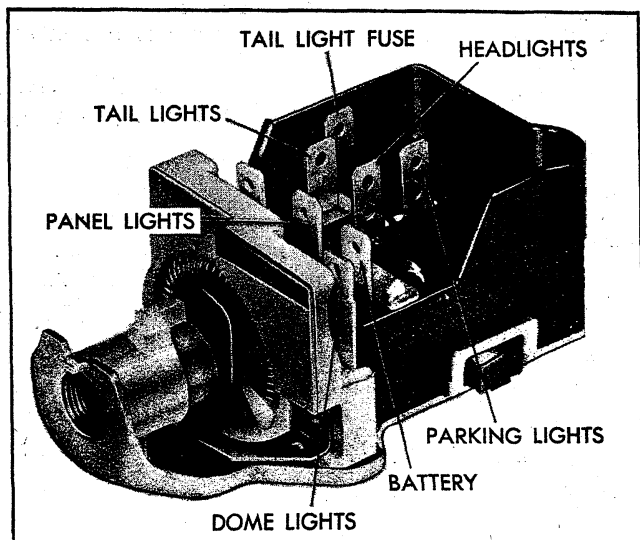

Fig. 23 - Light Switch Terminal Connections
6. Connect the multi-plug connector to the replacement switch (Fig. 23). Connect battery cable to battery terminal and check operation of the light switch in all positions.
CIGARETTE LIGHTER REPLACEMENT**Chevrolet, Chevy II, Camaro and Corvette (Fig. 23)**